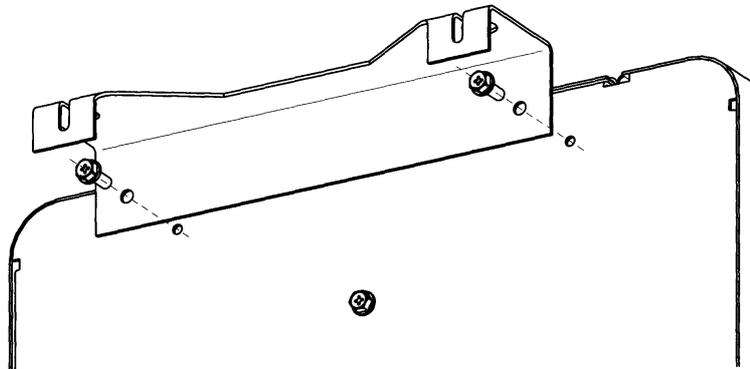

Figure 2 - Cylinder Bracket Assembly
- a) Install the cylinder bracket in the position as shown in Figure 2 using M5 fasteners